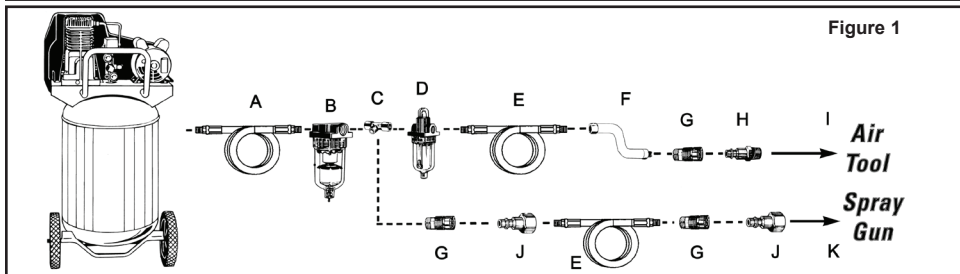
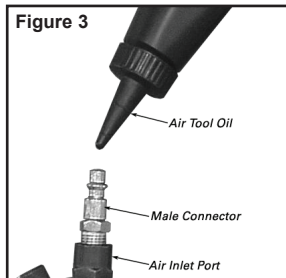

Figure 1
Figure 3
- Connect the tool to the air hose quick coupler. **NOTE: It is recommended that a whip hose with a swivel (P012-0079SP - not included) be used to prevent twisting, kinking and excessive wear to the air hose (ref. item "F" in figure 1 for recommended connections).**
To maintain the maximum performance of the air tool, it must be lubricated each time it is used. Dust, dirt, rust and oil residue will build up inside the tool and reduce the performance. An in-line oiler is recommended for proper automatic tool lubrication (see Figure 1). If an in-line oiler is not available, the tool can be lubricated manually through the inlet port (see Figure 3).